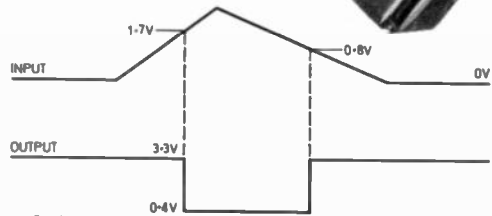

Fig. 2. Input-output characteristics.
0.8V, the output will rise sharply back to 3.3V (see Fig. 2). This delay in the switching action that the device possesses, known as hysteresis, makes it ideal for use as an RC multivibrator.